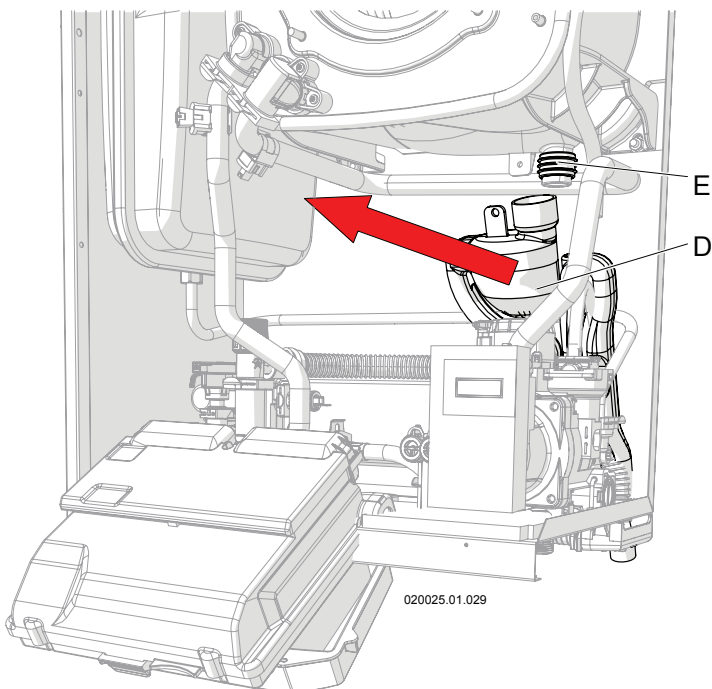

Figure 8-8 – Removing the condensate collection siphon
- 1.- With the boiler on, open a domestic hot water cock fully so that the burner runs at maximum power and the level of liquid inside the siphon tank "D" lowers (see figure 8-8);
- 8.- Extract the siphon by moving it outwards (see figure 8-8), taking care to disconnect the collection pipes for the water coming from the upper part of the appliance and from the air vent valve;